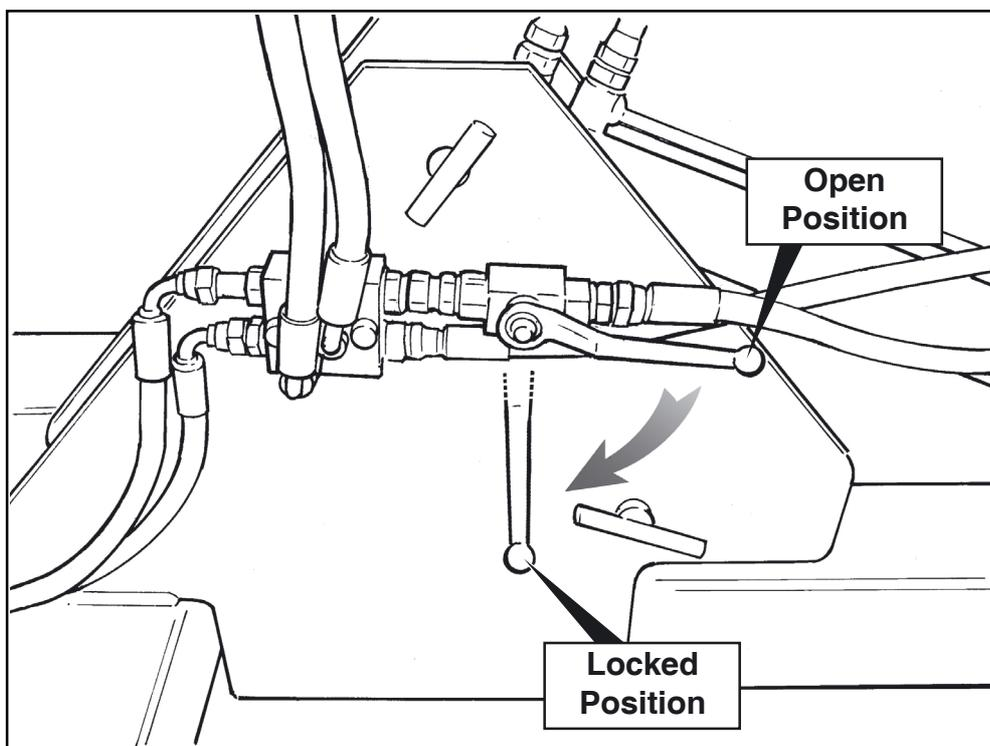
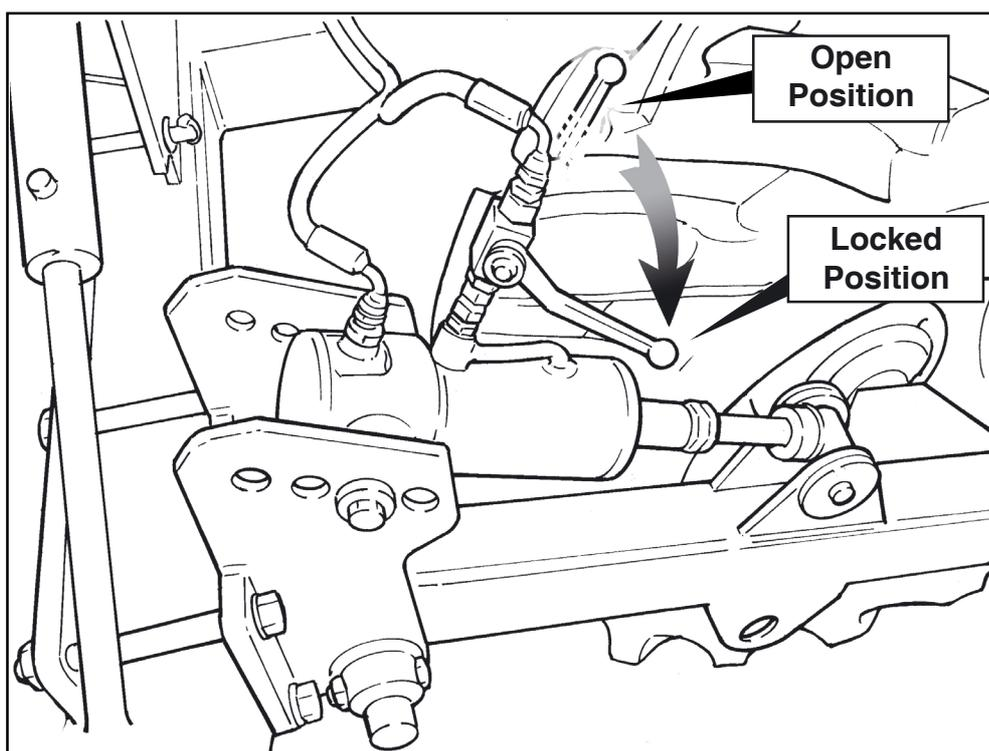

Fig 8
Fig 9
**Note:** Shut-off valves are in the open position when the lock handle is parallel with the body of the valve, Fig 8. To close - Turn the lock handle through  $90^\circ$ , Fig 9.